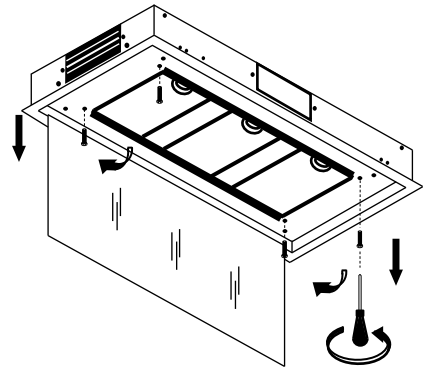

Fig 9
6. Undo the 4 screws holding the grease filters and glass cover to the body (Fig 9).